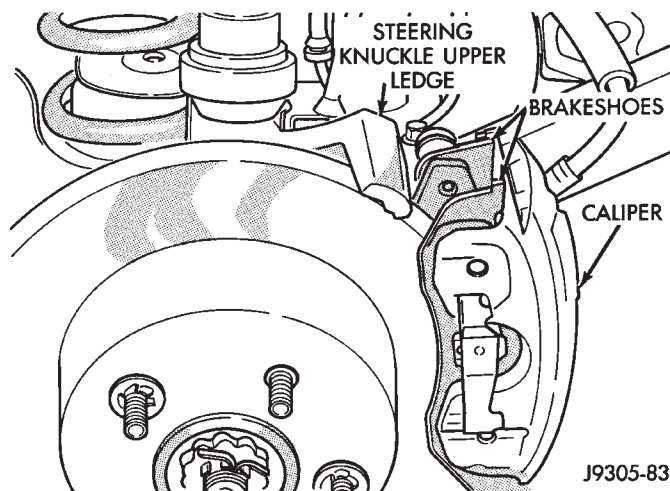

Fig. 3 Tilting Caliper Outward
- (5) Tilt top of caliper outward. Use pry tool if necessary (Fig. 3).
- (3) Rotate caliper rearward by hand or with pry tool (Fig. 3). Then rotate caliper and brakeshoes off mounting ledges.
- (4) Remove caliper fitting bolt and disconnect front brakeline at caliper. Discard fitting bolt washers. They are not reusable and should be replaced.
- (5) Remove caliper from vehicle.